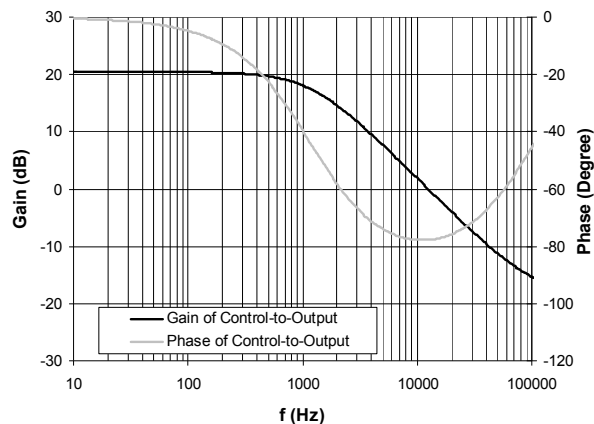
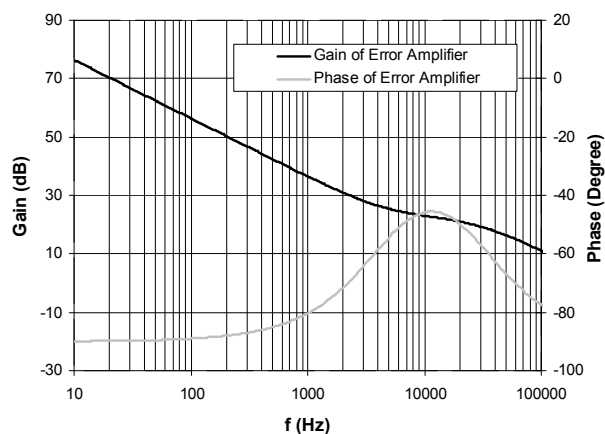
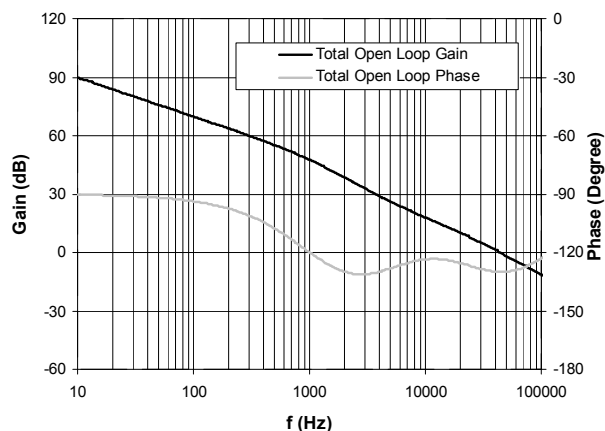

Figure 7. Control-to-Output Bode Plot
Figure 8. Error Amplifier Bode Plot
Figure 9. Total Open Loop Bode Plot
The gain and phase of the control-to-output transfer function predicted by the equation (29) are shown in Figure 7. The gain and phase of the error amplifier transfer function predicted by the equation (32) are shown in Figure 8. The total open-loop node plot predicted by the equation (35) is shown in Figure 9.
The crossover frequency of this MIC2124 buck converter is 40kHz and the phase margin is about 50°, as shown in Figure 9.